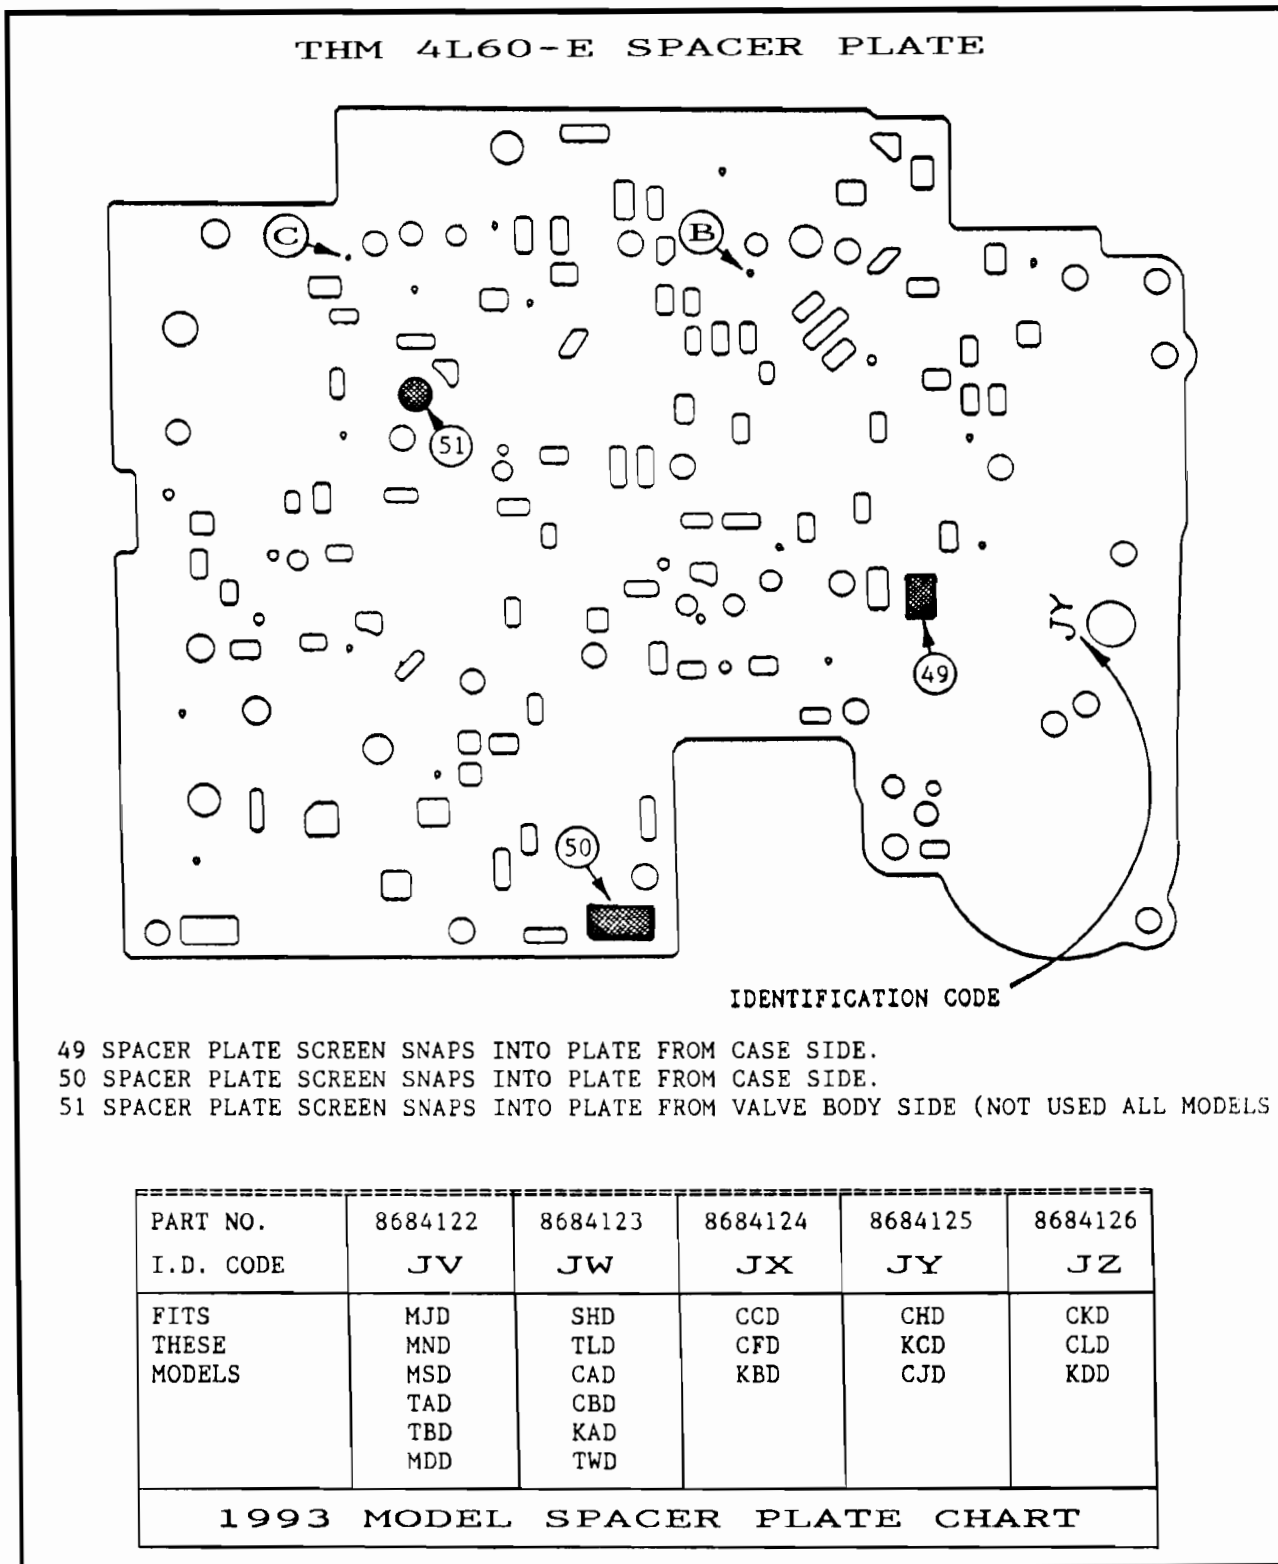

Figure 20
**CORRECTION:** For a delay into the forward ranges enlarge the hole marked "B" out to .125", as shown in Figure 20.
For a delay into reverse range enlarge the hole marked "C" out to .125", as shown in Figure 20.